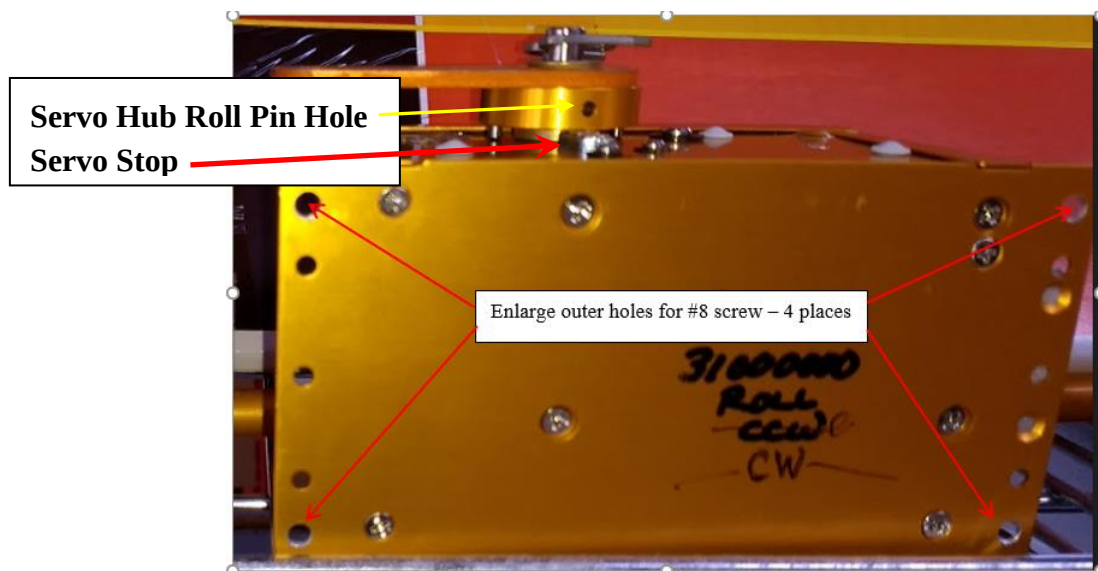
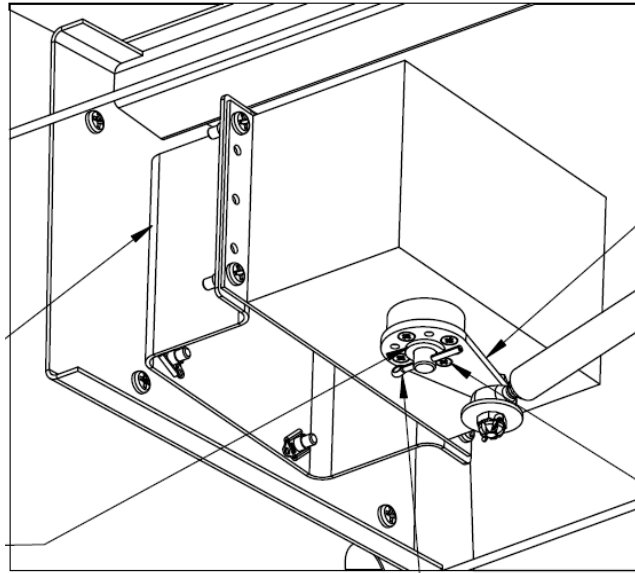

FIGURE 4-7 SERVO HUB AND STOP (RETRACTABLE GEAR SERVO)
FIGURE 4-8 ROLL SERVO INSTALLATION & SERVO ARM ALIGNMENT
- 3.10 Attach the roll servo pushrod and associated hardware to the RH aileron bellcrank. Refer to applicable STC Group Illustrated Parts Catalog & Figure 4-7. For retractable landing gear aircraft refer to figure 4-12.
4.1.14 Position the roll servo onto the servo bracket as shown in Figure 4-8. Retractable landing gear aircraft will have the servo hub and servo arm facing the upper skin of the wing and forward as depicted in Figure 4-7 & 4-12.